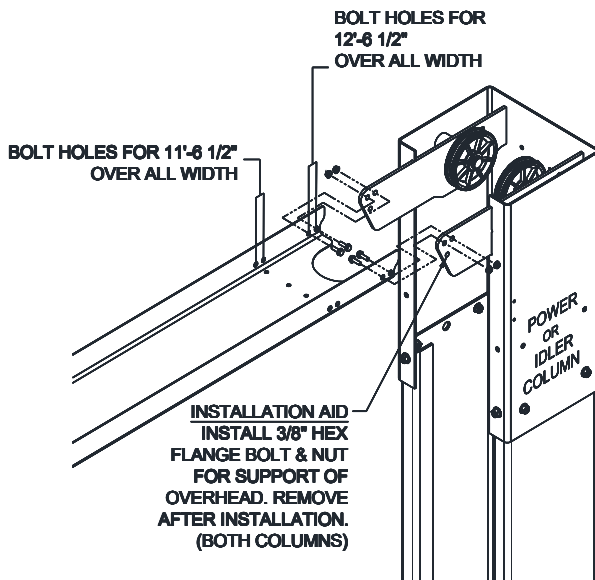

Fig. 8 – Overhead Assembly
- 20) Before raising overhead into position install 4 each (2 per column) hex flange bolts and nuts in middle hole of column extension (**see Fig. 8 Installation Aid**) for temporary support of overhead. Lift overhead assembly up into position and install with 8 (4 per column) 3/8-16 x 3/4" lg hex flange bolts and hex flange nuts per side as shown in **Fig. 8**. For the max width position, the outer overhead holes will be used. For the (-6") width, one set of outer overhead holes and one set of inner overhead holes will be used. For the (-12") width, the inner set of overhead holes will be used. If installing in 114-1/2" between columns configuration, refer to the Width Configuration Supplement.